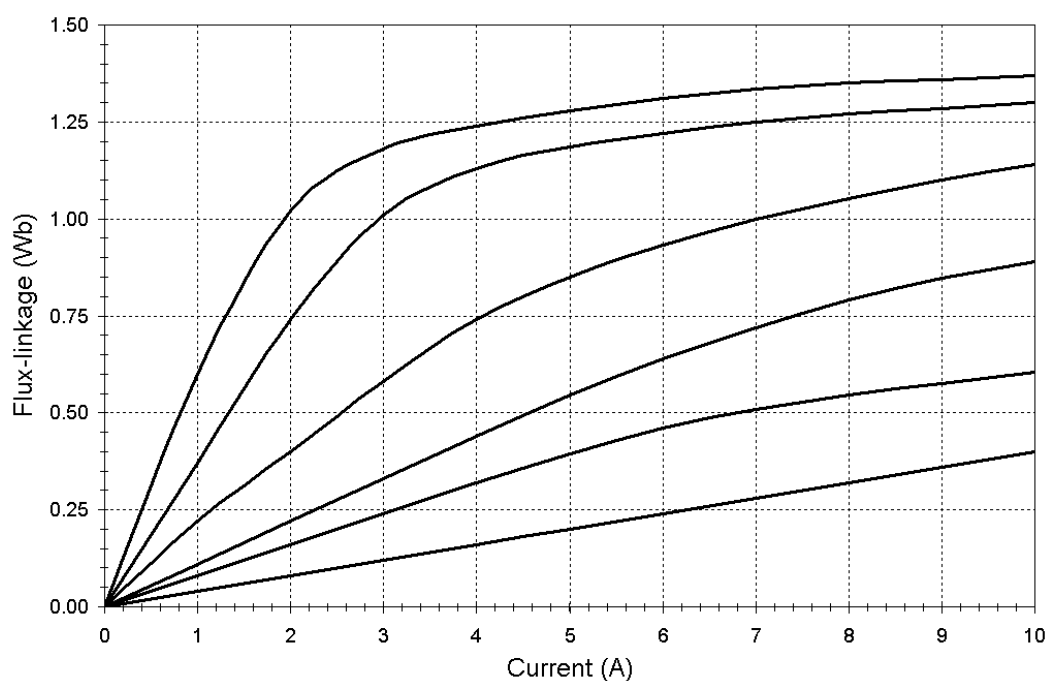

Figure 3 Measured  $\Psi$ -I characteristics for an SR machine
3. Figure 3 shows the measured variation of coil flux linkage with phase current for one phase of a three-phase switched reluctance rotating machine. The characteristics are measured at equal increments of angular displacement between the fully un-aligned and fully aligned positions. This machine has 6 stator teeth (each equipped with a concentrated coil having 127 turns) and 4 rotor teeth. The coils of a given phase are connected in series. The stator and rotor cores are manufactured from Silicon Iron